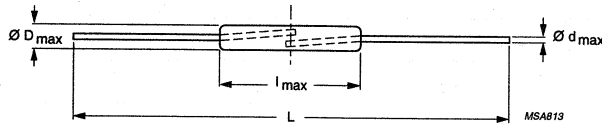

Fig.1 Outline dry-reed switch, for dimensions see Table 2.
**Table 2** Type selection on dry-reed switch dimensions (see Fig.1).